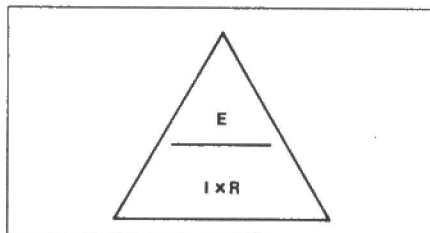

Figure 1. Ohms Law Triangle
How well and how quickly you will be able to do this will depend on your electrical knowledge and experience. So to assist you to acquire this electrical knowledge, let me briefly explain the fundamental principles underlying the units of electricity, and their application to an electrical circuit. The strength of a steady direct current of electricity flowing in a closed circuit is directly proportional to the electromotive force, and inversely proportional to the resistance of the circuit where I equals the current expressed in units of amperes (A), E equals the electromotive force expressed in units of volts (V), and R equals the resistance expressed in units of ohms (Ω). The above is known as Ohms Law, and states that the electromotive force divided by the current is equal to the resistance of the circuit, and is shown in a formula as $R = E \div I$. The current flowing in the circuit is calculated by dividing the electromotive force in volts, by the resistance in ohms, which is shown in formula as $I = E \div R$, and lastly, the electromotive force is found by multiplying the current in amperes by the resistance in ohms, which is expressed in a formula as $E = I \times R$. A simple method of remembering this formula is by drawing a triangle as shown in Figure 1, and by placing a finger over the *wanted* quantity, the required formula will be left. For example, to find resistance, place a finger over R , leaving $E \div I$. To find the current, place the finger over I , which will leave $E \div R$, and to find the electromotive force, place the finger over E , leaving $I \times R$.